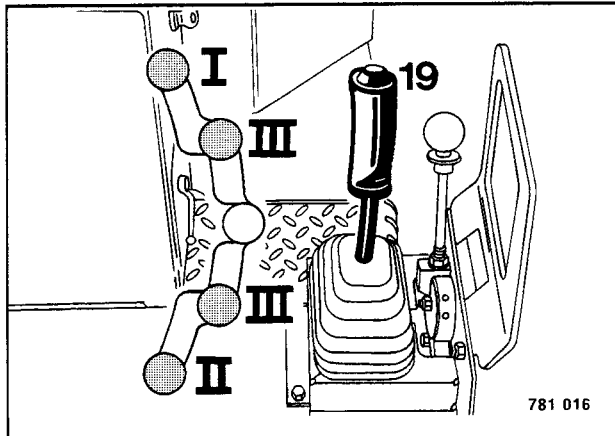

Fig. 18
2. Move the travel lever 19 (Fig. 18) to full forward position.